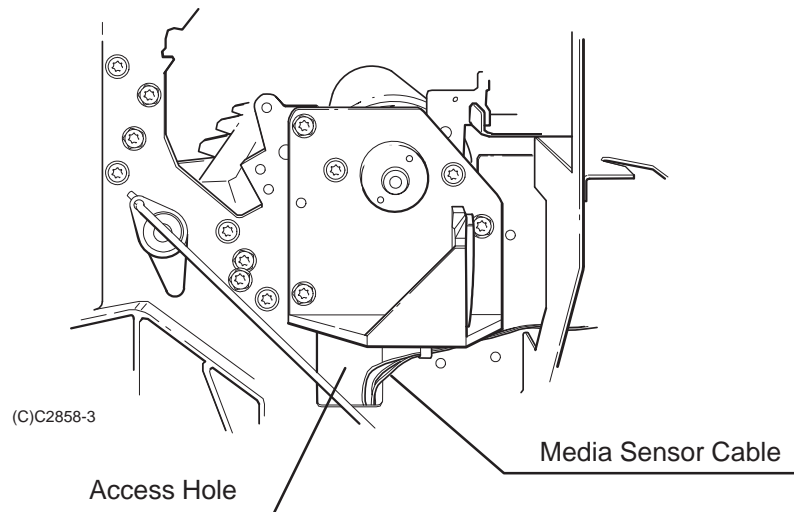

Figure 6-14.
5. Remove the sensor through the access hole in the right sideplate. See Figure 6-14.